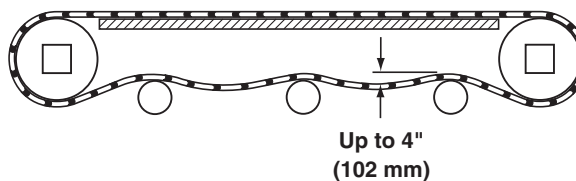

Figure 36
4. Check belt sag by measuring from the top of the return (**Figure 36**). Belt sag should not exceed 4" (102 mm). Follow steps 7 – 9 in the "Belt Installation" section on page 12 to remove slack from the belt.